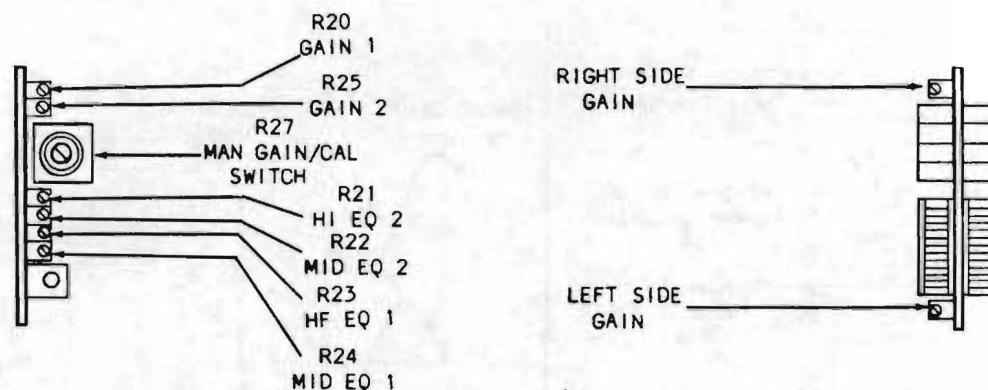

Figure 4-7, Reproduce Amplifier and VU Meter Board Adjustments
- Using the reference level applied to the desired channel, advance the gain until the uppermost yellow LED just lights (see Figure 4-7).